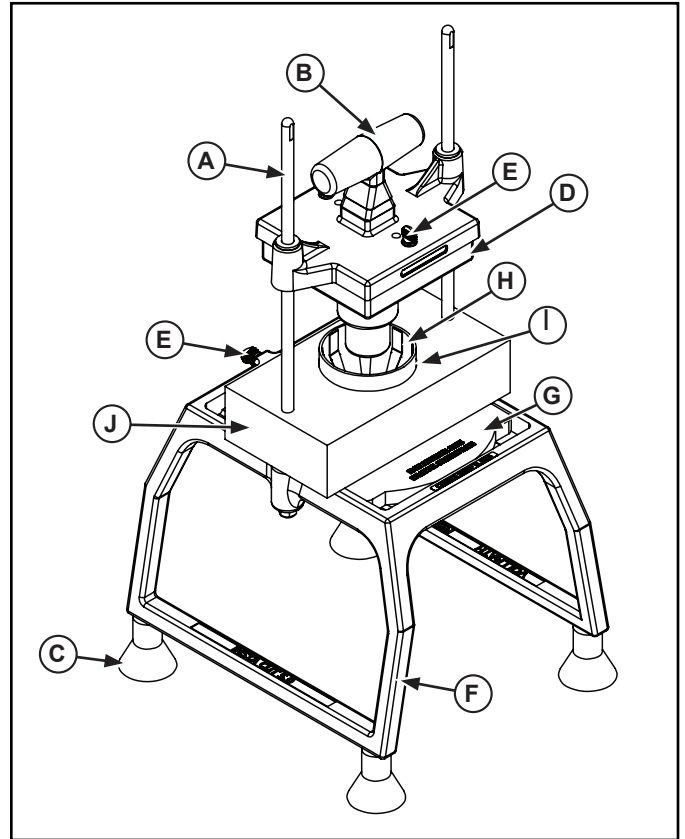

Figure 1. Features and Controls Cucumber Slicer.
Install the feet (C) securely to the base assembly (F). See Figure 1.